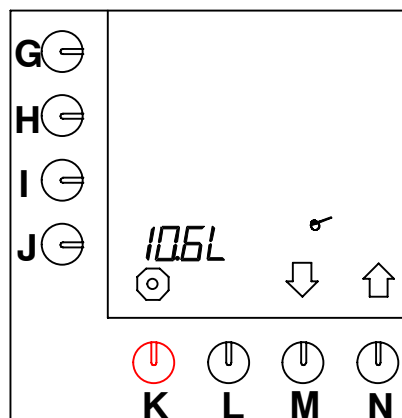

Fig. 20 Total amount of water
- After having entered the principal user PIN code fig.20 appears on the display.